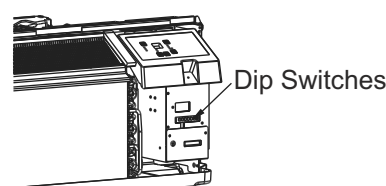

Fig.3
- Dip switches are accessible without opening the control box. See Fig.3.
- Pull out at the bottom to release it from the tabs ① .
- Then lift up ② .